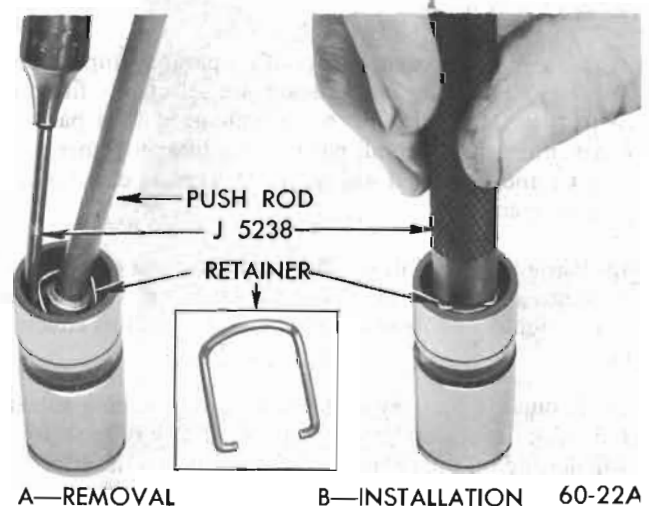

Figure 60-14 - Plunger Retainer
8. Disassemble each valve lifter by using a push rod to hold down the push rod seat while removing the plunger retainer from the lifter body using Retainer Remover J-5238. See Figure 60-14, View A.